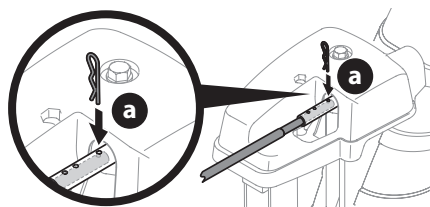

Figure 61
1. Remove cotter pin (a) from either of the holes furthest from the chute assembly on chute control head (Figure 61).
2. Push in chute control rod until the hole in it lines up with the third hole in chute control head (Figure 61).
3. Reinsert cotter pin (a) through this hole and chute control rod (Figure 61).